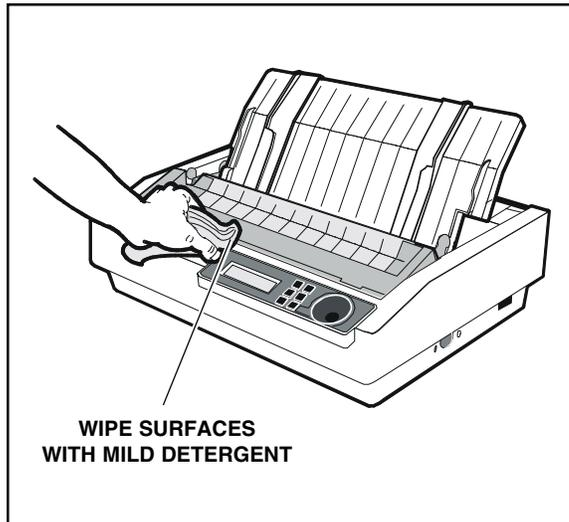

Figure 5-4. Cleaning the Printer Case & Windows
3. Use a cloth lightly moistened with glass cleaner, 91% isopropyl alcohol, or a mild dishwashing detergent to wipe and clean the printer windows, as shown in figure 5-4.